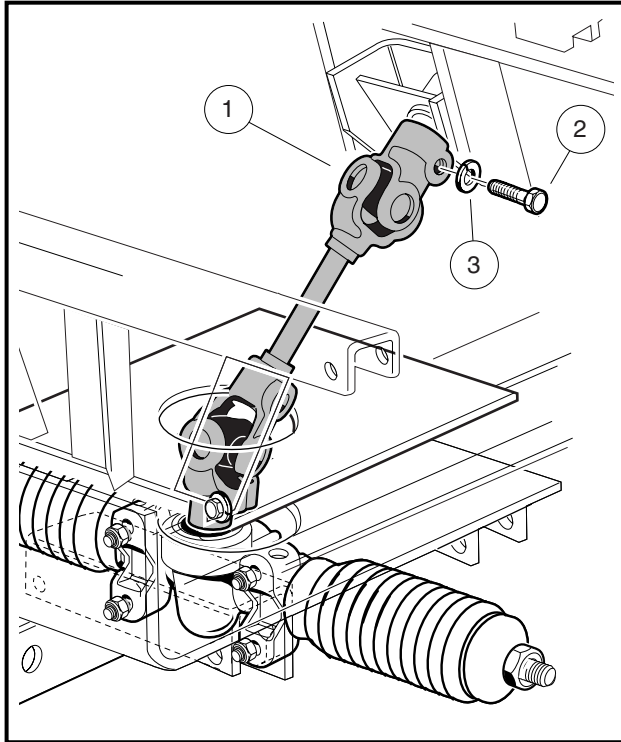

Figure 7-4 Steering Joint Assembly
6. Remove the upper bolt (2) and lock washer (3) from the steering universal joint (1) (**Figure 7-4, Page 7-4**).
8. Disconnect the steering universal joint (1) from the steering column shaft and remove the steering column from the vehicle (**Figure 7-4, Page 7-4**).
4. Install bolt (2) and lock washer (3) on the upper steering joint and finger-tighten (**Figure 7-4, Page 7-4**).